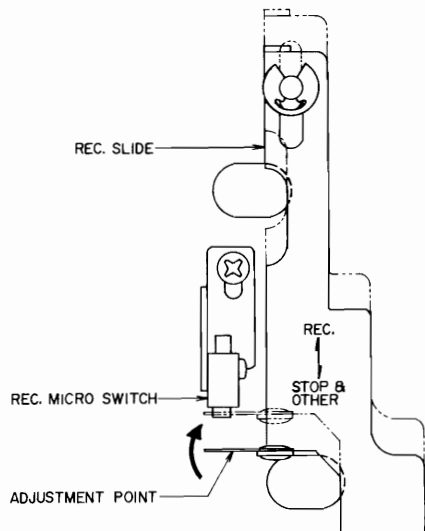

Fig. 6
5. REC. SLIDE ADJUSTMENT (See Fig. 6)
At Stop mode, bend adjustment point (phosphor bronze plate) of Rec. Slide toward arrow. (Fig. 6) When the Rec. Button is depressed, the phosphor bronze plate must properly turn ON the Rec. microswitch.